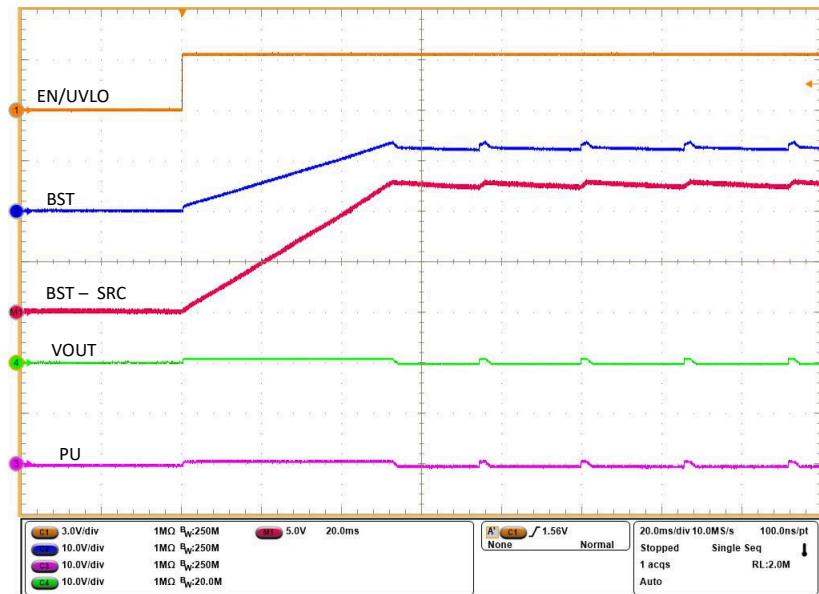

Figure 5-2. Start-Up Profile of Bootstrap Voltage for INP = GND
4. Now, enable the EN/UVLO to HIGH to observe the start-up profile of BST, GATE and SRC when INP = GND as shown in Figure 5-2.